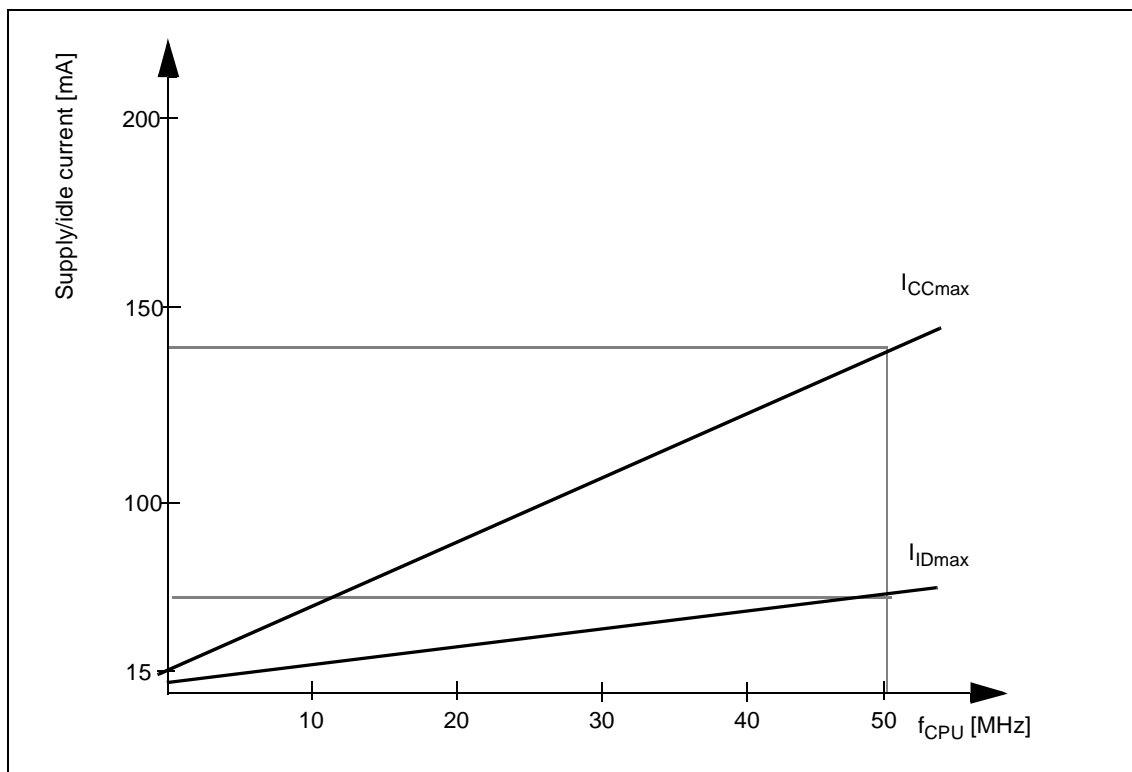

Figure 10 Supply/Idle current vs operating frequency
- 7) Supply current is a function of operating frequency as illustrated in Figure 10 on page 44. This parameter is tested at V_{DDmax} and 50 MHz CPU clock with all outputs disconnected and all inputs at V_{IL} or V_{IH} with an infinite execution of NOP instruction fetched from external memory (16-bit demux bus mode, no waitstates, no memory tri-state waitstates, normal ALE).